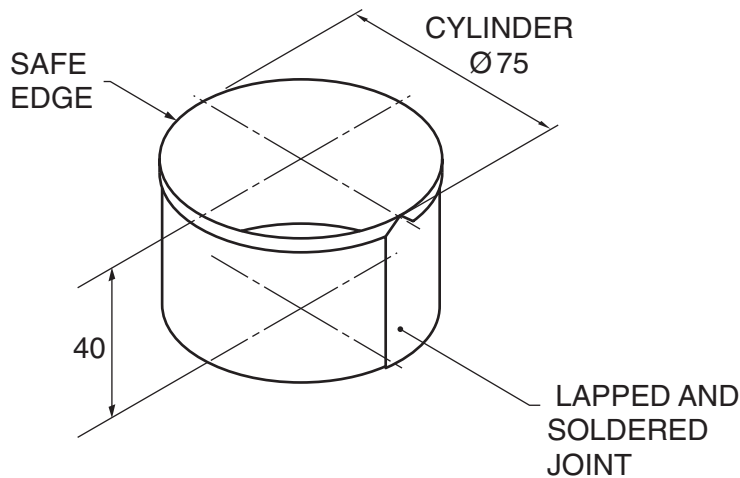

Fig. 2
- 2 Fig. 2 shows a pastry cutting tool used in cookery. The cutting tool is made from a single piece of tinfoil.
- (c) Having formed the safe edge, describe with the aid of sketches how you would form the piece of tinfoil into the cylinder shown in Fig. 2. [5]